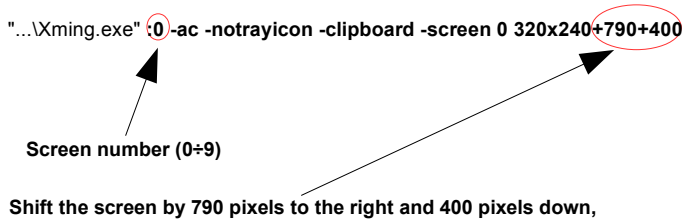

Fig. 7.41 Xming parameters description
3. After installation of "**Xming**" use the right mouse button to open the properties window for desktop icons of the "**Xming**" and replace the "**-multiwindow**" with "**-ac -notrayicon -clipboard -screen 0 320x240+790+400**" (Fig. 7.41), then close the window properties.